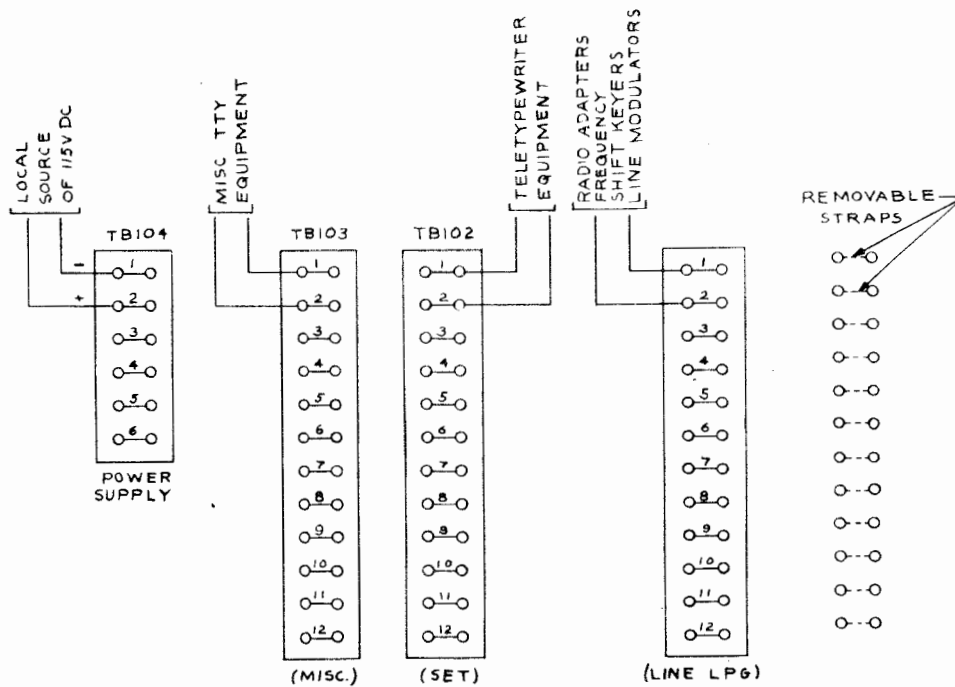

Figure 2-3. Communication Patching Panel, SB-1203A/UG, Interconnection Diagram
(1) All cables coming into the panel are terminated on the applicable terminal blocks TB-101 through TB-104 (also TB-105 on model SB-1210A/UGQ). See figures 2-3 and 2-4. All teletypewriter equipment desired to be permanently connected in a looping circuit should be con-